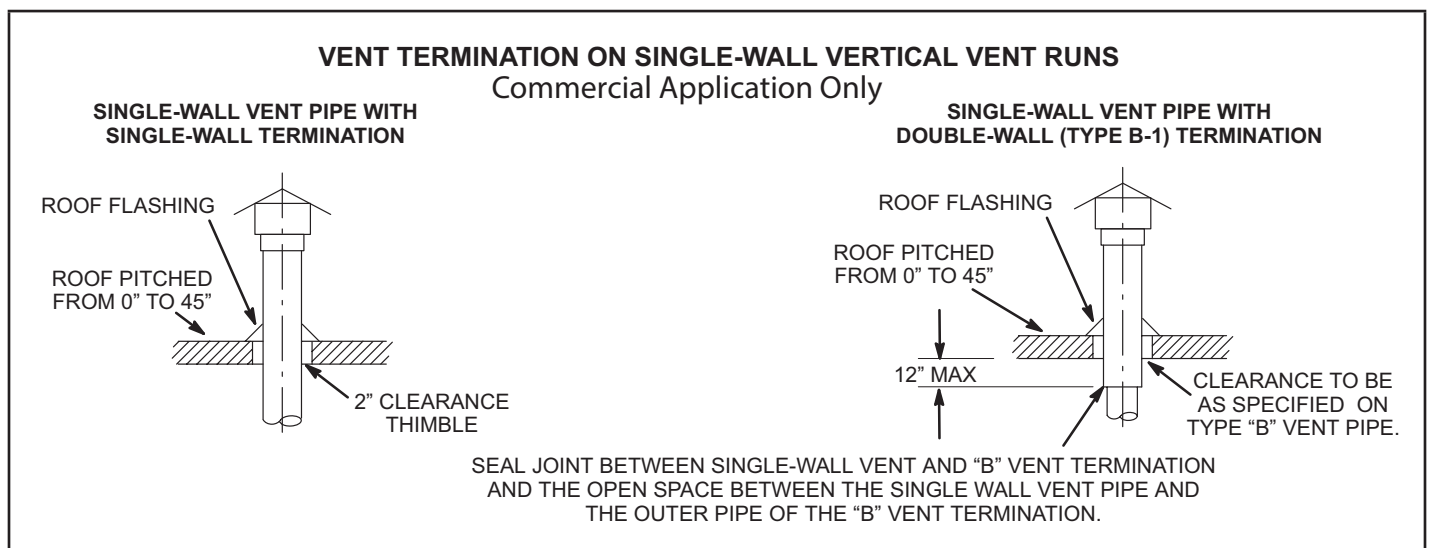

FIGURE 5
- 1 - These unit heaters are to be used with NFPA- or ANSI-approved chimneys or U.L.-listed type B-1 gas vents, or listed chimney lining systems for gas venting where applicable, as well as the modifications and limitations listed in figure 5. Seal single-wall vent material according to **General Recommendations and Requirements** section.